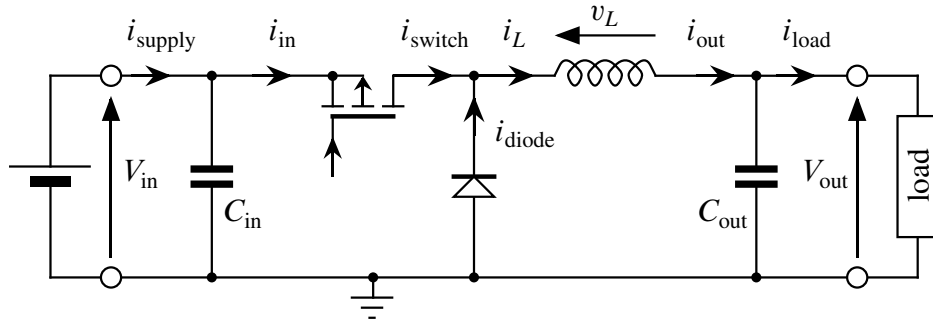

Figure 15. Circuit of a standard buck DC–DC converter.
6.2 *Basic buck regulator.* A point-of-load (PoL) power supply is required to deliver 3.0 V at 100 mA from a 5.0 V bus. It is implemented as a buck converter with a 100 μH inductance running at 100 kHz in continuous conduction mode. Figure 15 shows the circuit. You may assume that all components are ideal and that the input and output are smoothed so effectively that their voltages may be treated as constant. Analyse the behaviour of the circuit as follows
- (b) Using the notation in figure 15, show that $v_L = +2 \text{ V}$ during charging and $v_L = -3 \text{ V}$ during discharging.
- (a) The standard relation between input and output voltages for a buck converter is $V_{out} = DV_{in}$ so $D = V_{out}/V_{in} = 3.0/5.0 = 0.6 = 60\%$. The average currents obey the inverse relation, $I_{in} = DI_{out} = 0.6 \times 100 \text{ mA} = 60 \text{ mA}$. This is definitely an average current because the input current to a buck converter is pulsed. Using the notation of figure 15, $i_{in}(t)$ is pulsed but $i_{supply}(t)$ is smoothed by C_{in} . Its average value is shown as I_{supply} on the plot.